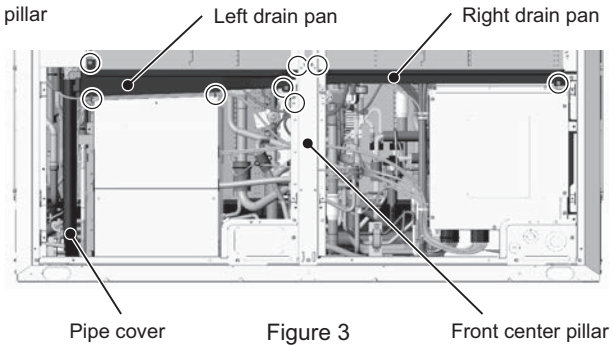

Figure 3
- (3) Remove the pipe cover. (Figure 3)
- (4) Remove the two screws from the front center pillar. (2 screws, Figure 3)
- Remove the left drain pan. (2 screws; 2 tie bands to be cut, Figure 3)
- (5) Remove the right drain pan. (2 screws, Figure 3)